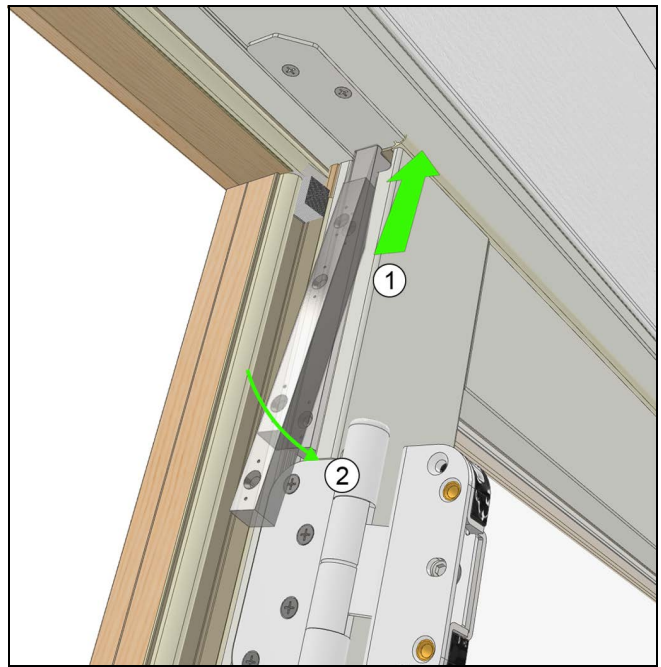

Figure 23
5. Seat the lock bar into the panel Eurogroove and up into the head jamb strike aligning top hole on lock bar to the removed screw hole already in the panel. *Be mindful not to overshoot the bolt as this will cause the head jamb to bow upward.* See Figure 23.